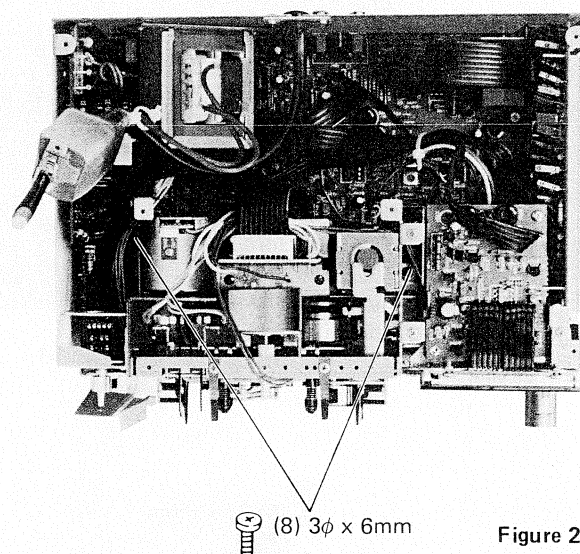

Figure 25
5. Remove two screws (8) ($3\phi \times 6\text{mm}$) holding Mechanism Assembly and bottom plate as shown in Figure 25.